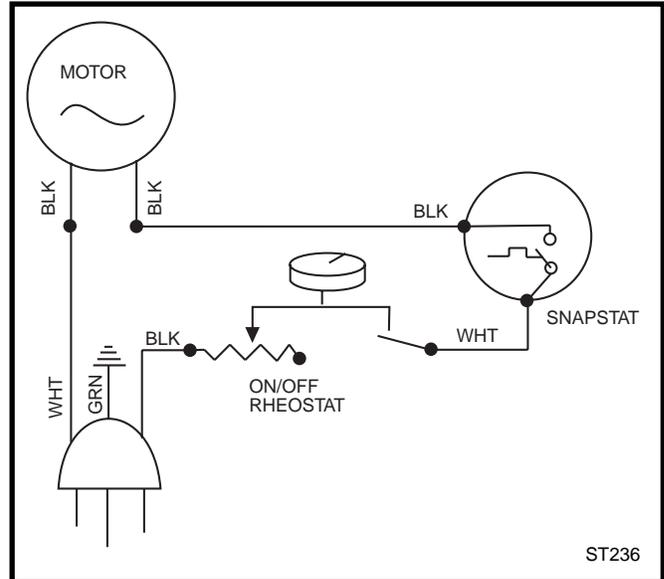

**Fig. 9** Attach snapstat to inner shroud.
4. Secure the snapstat to the upper middle of the inner shroud. (Fig. 9) **NOTE:** The snapstat location may be reached through the front of the stove between the top and the firebox or you may loosen the four screws holding the rear shroud in place. Be sure to secure shroud back into place before operation.